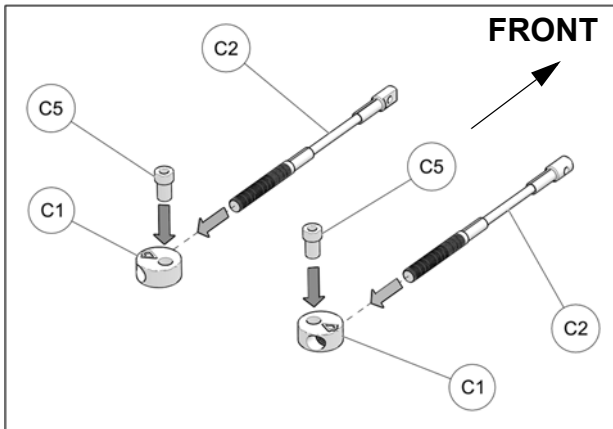

Fig. 18
- Assemble steering limiter cables (C2), aluminum disks (C1) and step spacers (C5) together as shown on Fig. 18